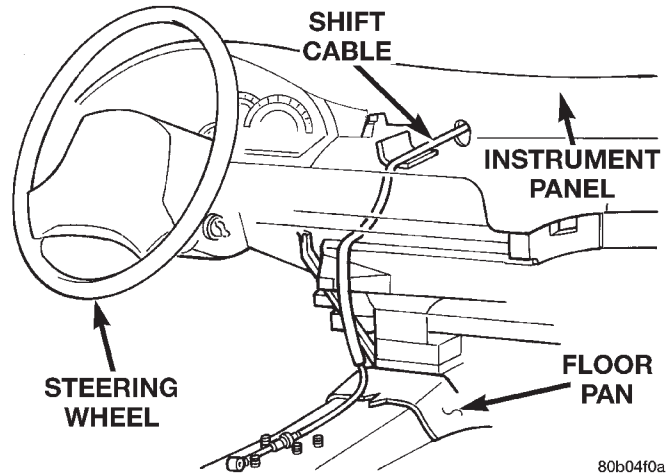

Fig. 26 Interior Cable Routing
(4) Tighten shift cable clamp bolt.
(5) Rotate fill tube to original location. Install and tighten fill tube bracket bolt.
(6) Route transaxle shift cable through hole in dash panel.
(7) Install cable grommet in dash panel.
(8) Route transaxle shift cable under A/C duct, over central distribution duct, through support strut and air bag mounting bracket. Then route over carpeting and down to the shifter bracket (Fig. 26).